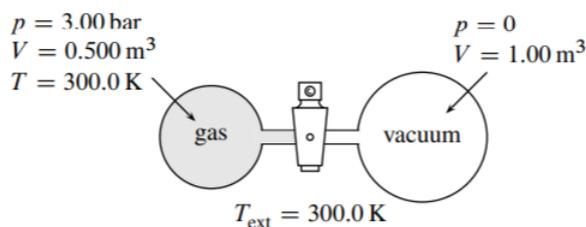

Figure 3.26
3.8 Figure 3.26 shows the initial state of an apparatus containing an ideal gas. When the stopcock is opened, gas passes into the evacuated vessel. The system is the gas. Find  $q$ ,  $w$ , and  $\Delta U$  under the following conditions.